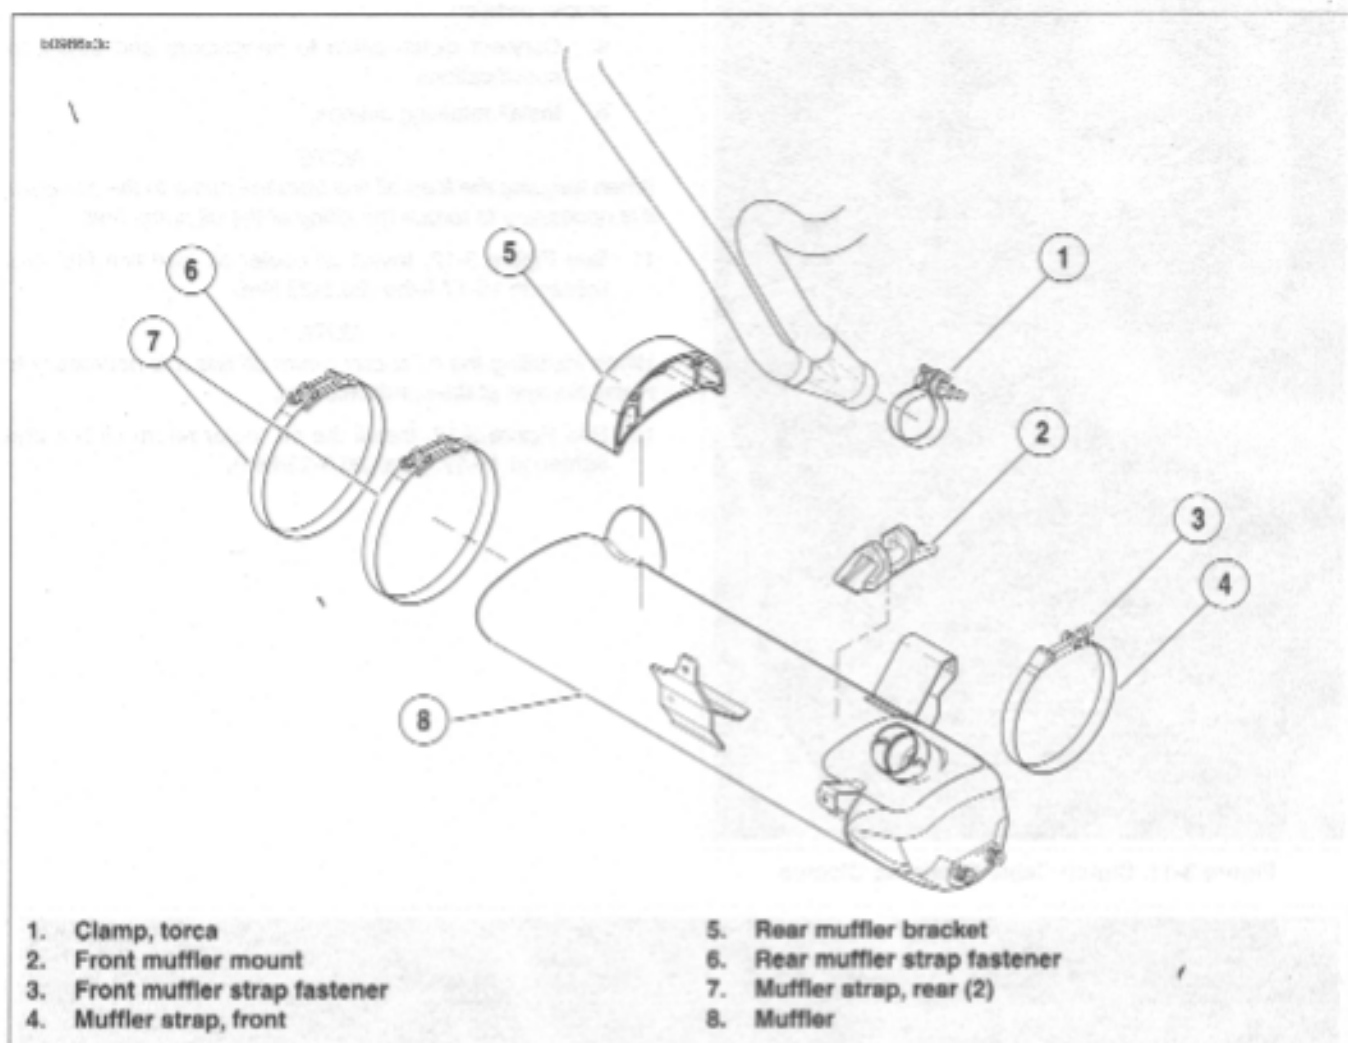

Figure 3-13. Muffler and Mounting System
13. See Figure 3-13. Install muffler with **new** torca clamp but do not tighten:
- Install rear muffler straps and alternately tighten rear strap fasteners (6) to **48-60 in-lbs (5.4-6.8 Nm)**.
- Install front muffler strap fastener (7) and tighten to **108-120 in-lbs (12.2-13.6 Nm)**.